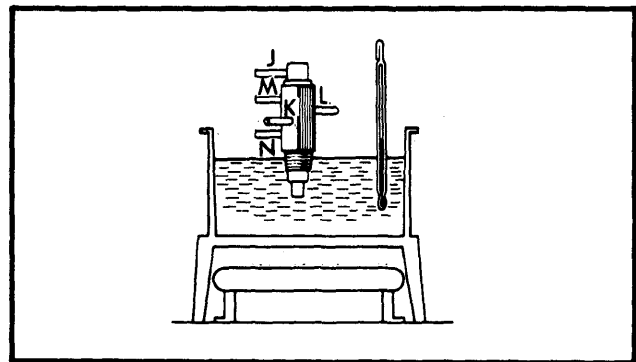

Fig. 7 Testing TVSV
1) Drain coolant from radiator and remove TVSV. Place threaded end of valve in container of ice water with thermometer. With temperature below 45°F (7°C), check that air flows from pipe J to pipe M and L and from pipe K to pipe N. See Fig. 7.